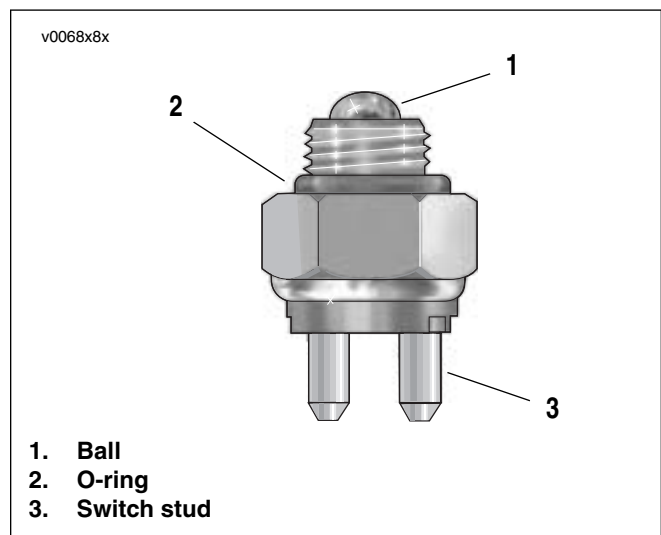

Figure 8-64. Neutral Switch (typical)
1. See Figure 8-64. Lubricate new O-ring (2) with engine oil.